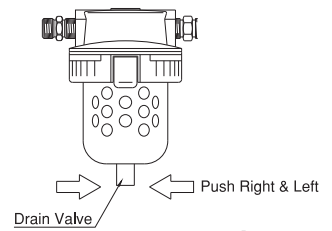

Fig.11
① Moisture in the Air Filter (Fig.11)